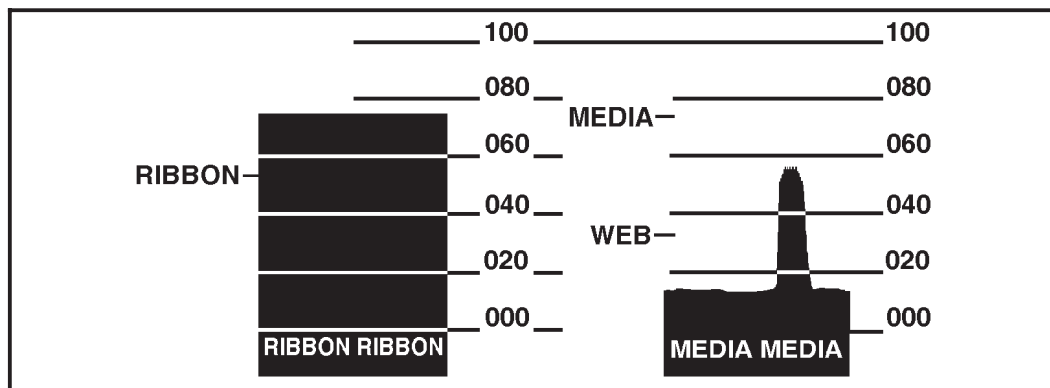

Figure 5.8 Media Sensor Profile Sample Label
8. Close the Printhead and press the MODE key to complete the automatic adjustment process. A Media Sensor Profile will automatically print and the new sensor settings will be automatically saved. (See Figure 5.8)